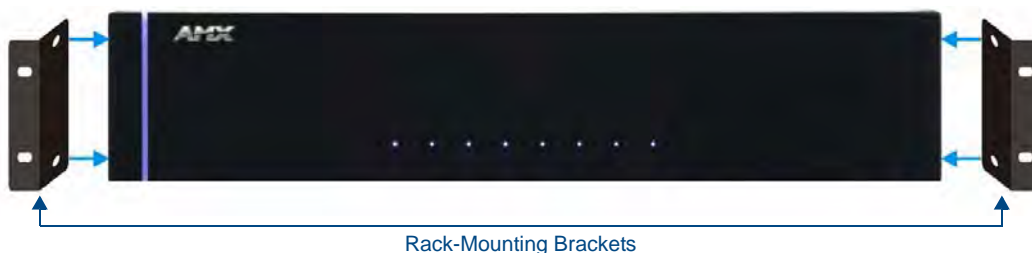

FIG. 2 Attach the mounting brackets to each side of the Hub (2 brackets per side)
2. Attach one rack mounting bracket to each side of the UDM-0808-SIG using two M4 screws for each bracket (FIG. 2).